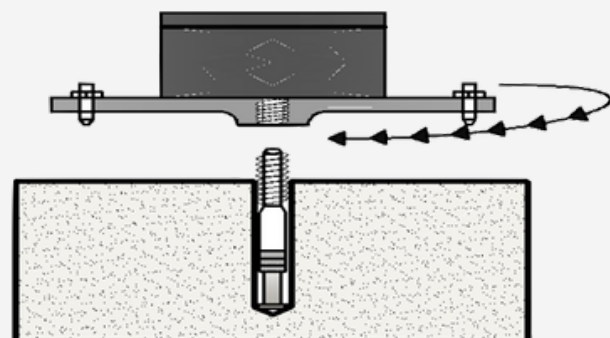
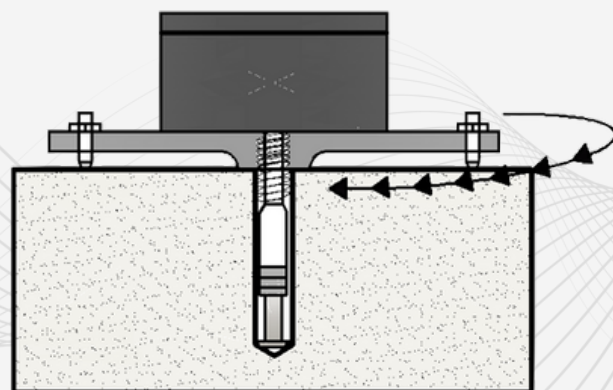

Figure 3 - Mating plate and anchor
Figure 4 - Fully mated mounting plate
8. Lower the xWave into place over installed anchor, match male threads from anchor with female threads at bottom of mounting plate. Rotate mounting plate clockwise to mate anchor and plate together, see Figure 3 and Figure 4 ).